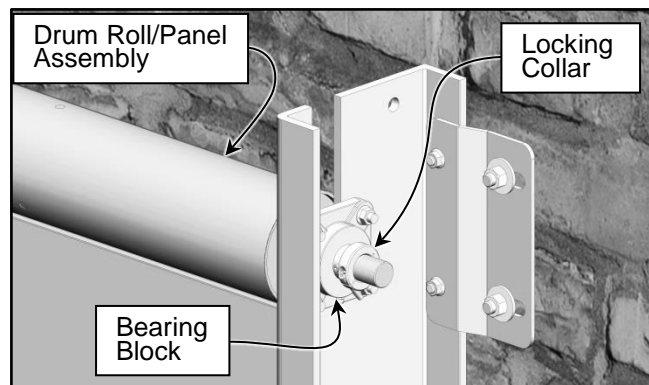

Figure 14
- Slide the locking collar onto the shaft end if this is the non-drive side. Tighten the collar to prevent the drum roll from falling out of the bearing. (See Figure 14)